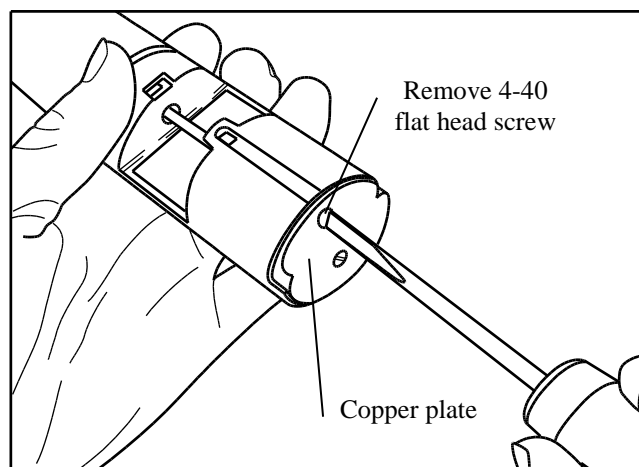

Figure 8-6. Remove the screw
2. Remove the 4-40 flat head screw and copper plate to expose the drive shaft access port (Figure 8-6).